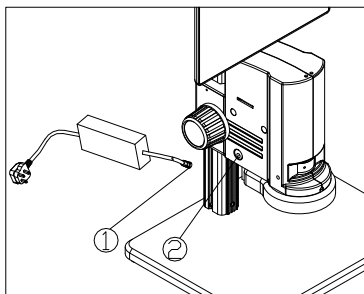

Fig. 3
- 1) Insert the external adapter plug ① into the power supply adapter socket ② of the microscope body to the bottom, and the power will be switched on. (See Fig. 3)